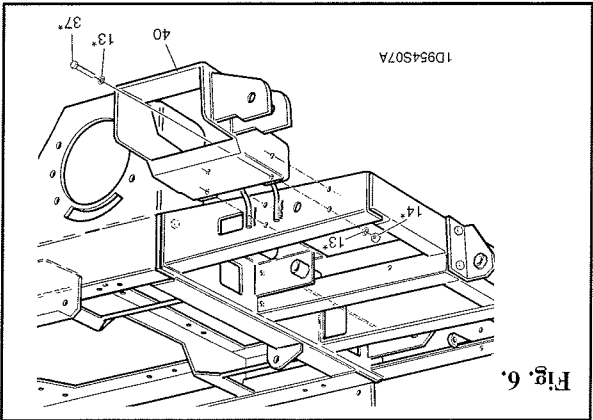
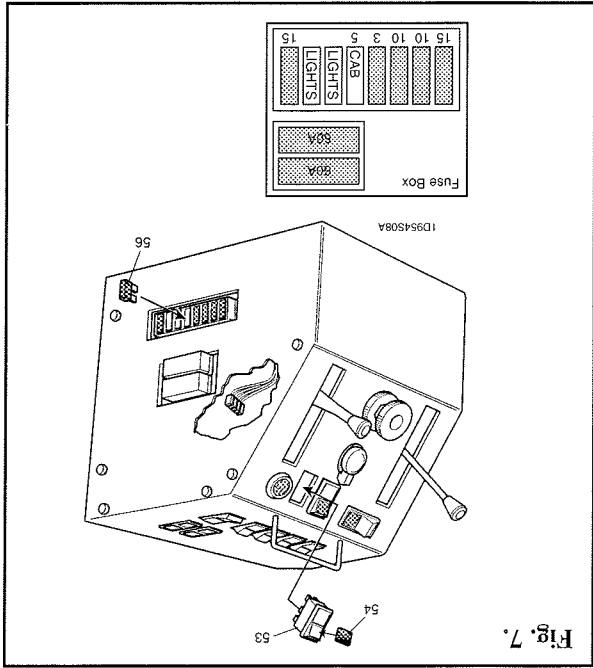
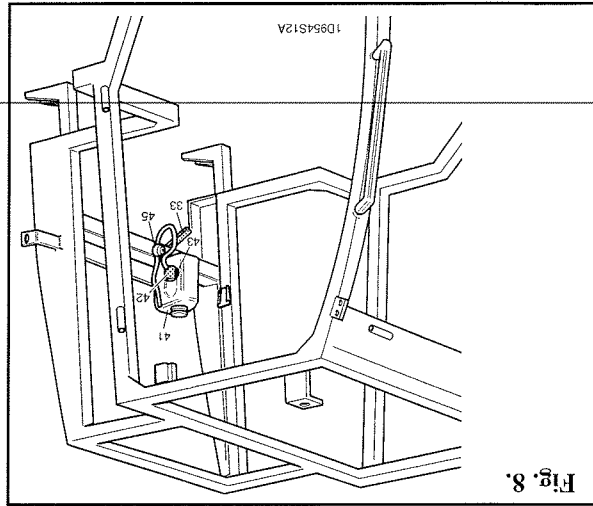

Fig. 6.
Fig. 7.
Fig. 8.
17. Secure the LH cab footstep (item 40) to the chassis using the fasteners removed in step 16 (items 13, 14 & 37). Do not fully tighten at this stage.
- Refer to Fig. 6.
18. Repeat step 17 for the RH cab footstep (item 34)
20. Identify the switch, lens, fuse and cable ties (items 53, 54, 56 & 57).
- Refer to Fig. 7.
22. Remove the wiper/washer switch position blanking cover in the control panel and pass the block connector through the aperture from the underside. Fit the lens (item 54) to the rocker switch (item 53) and assemble to the block connector. Snap the switch into the control panel.
23. Fit the 5 Amp fuse (item 56) into the fuse box.
25. Fit the draft excluder strip (item 33) to the rear cab bulk-head.
26. Secure the washer bottle (item 41) to the bracket on the rear right cab corner post and attach the washer pump, sealing washer, tube and non-return valve (items 42, 43, 44 & 45) to the washer bottle.
- Refer to Fig. 8.